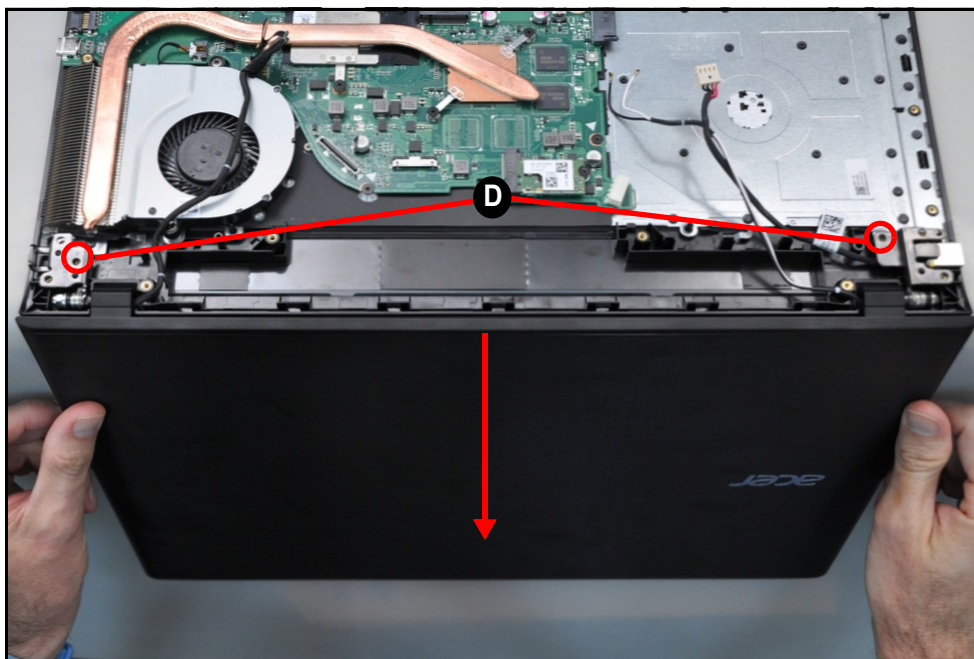

Figure 3-87. Replacing the LCD Module
1. Place the LCD module on the top assembly as shown on Figure 3-87. Make sure the LCD hinges are at a 90 degree angle to the LCD module and lie flat against the top assembly.
2. Install and secure two (2) screws (D) to the LCD module. Refer to Figure 3-87.